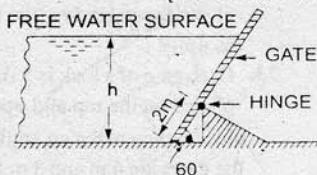

Fig. 3.56
16. A gate supporting water is shown in Fig. 3.56. Find the height 'h' of the water so that the gate begins to tip about the hinge. Take the width of the gate as unity. (Delhi University, 1986) [Ans.  $3 \times \sqrt{3}$  m]